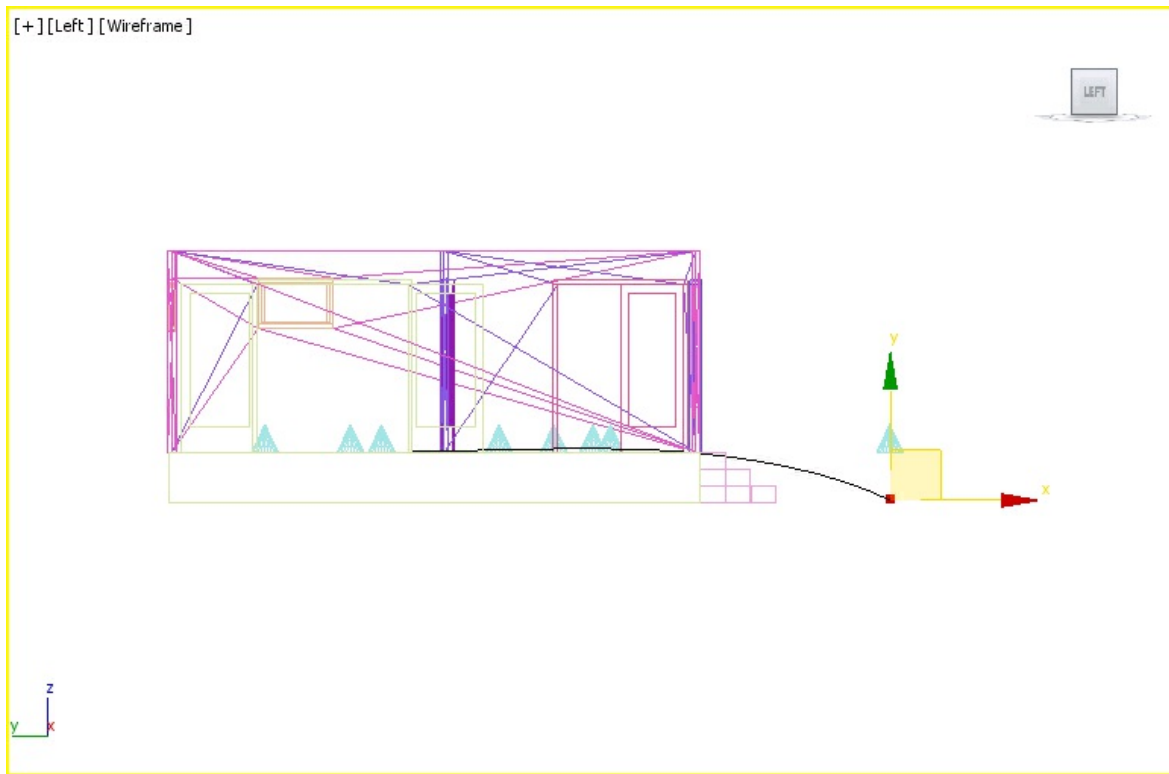

Figure 14-72 *The first vertex moved down*
14. Move the first vertex down so that it is at the same level as the bottom of the house, as shown in Figure 14-72.